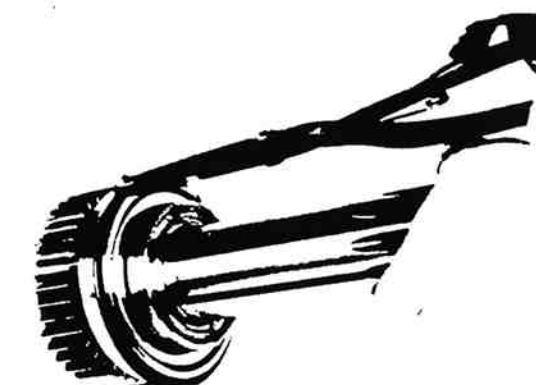

Figure 13-104. Removing Retaining Ring.
9. Remove the retaining ring from drive gear bearing (figure 13-104).